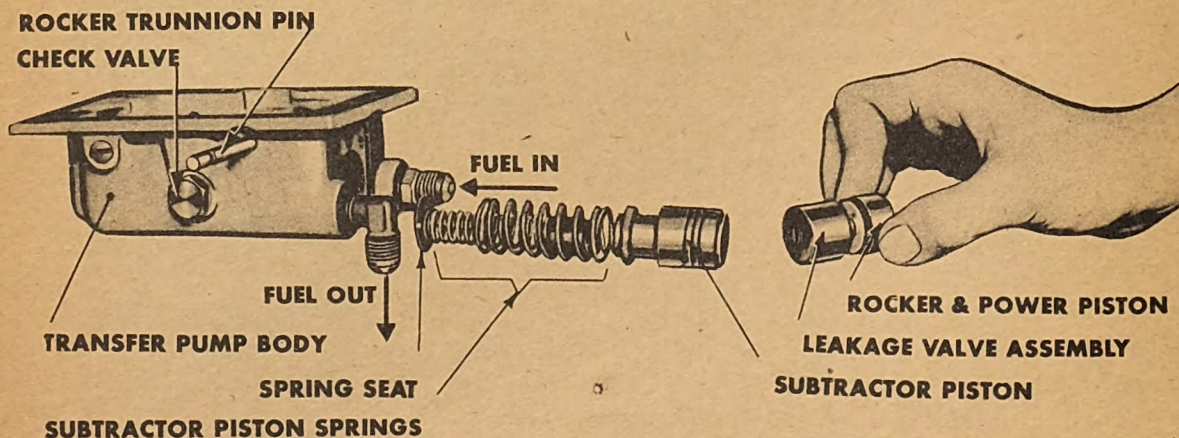

Fig. 278. Leakage Valve Assembly TL 36930
- (5) The leakage valve assembly screws into the end of the power piston and can be removed with a screwdriver. This valve cannot be reassembled if taken apart. When a leakage valve assembly is replaced in the piston, the new assembly should first be screwed in lightly, and then removed and inspected for full seal contact. Leakage will occur if a full seal is not obtained and the valve will not function. (See Figure 278.)